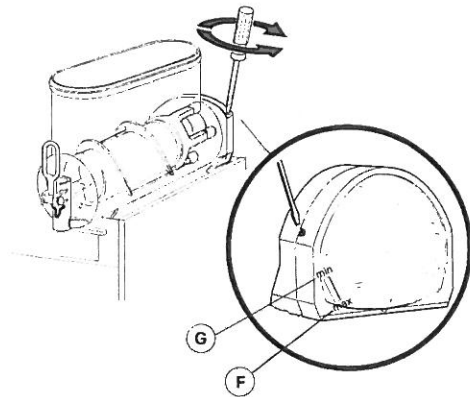

figure 4
- 1 Granita viscosity adjustment:** proper Granita viscosity factory preset. To change the viscosity, if needed, use standard screwdriver to turn the adjustment screw located the rear wall of each container as follows (see figure 4):